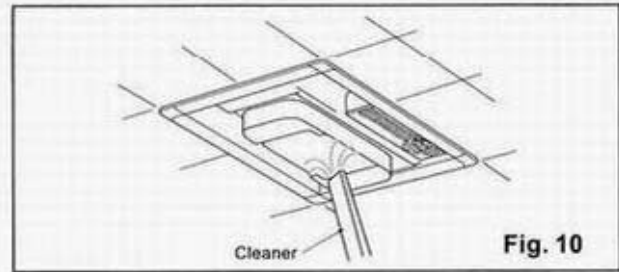

Fig. 10
3. Remove dust and dirt from fan body using a vacuum cleaner. (Remove fluorescent lamps and incandescent lamp (FV-11VHL1 only) if necessary.) (Fig.10)